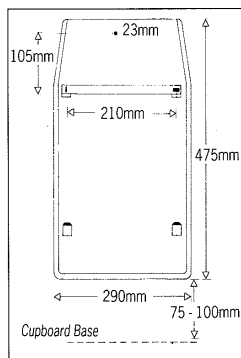

FIG 13
3. Mark position of mounting bracket as shown in Fig 13. Drill and secure horizontally using screws and plugs provided. Hang Streamline, mark the third hole and fix as above.